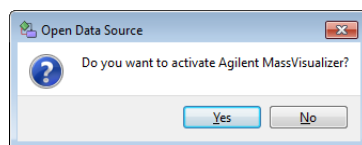

Figure 111 Open Data Source dialog box
- d Click **Yes** in the new **Open Data Source** dialog box to activate Agilent MassVisualizer (Figure 111). You can choose to activate the Agilent MassVisualizer plug-in later; however, MassVisualizer must be activated at this time in this workflow.